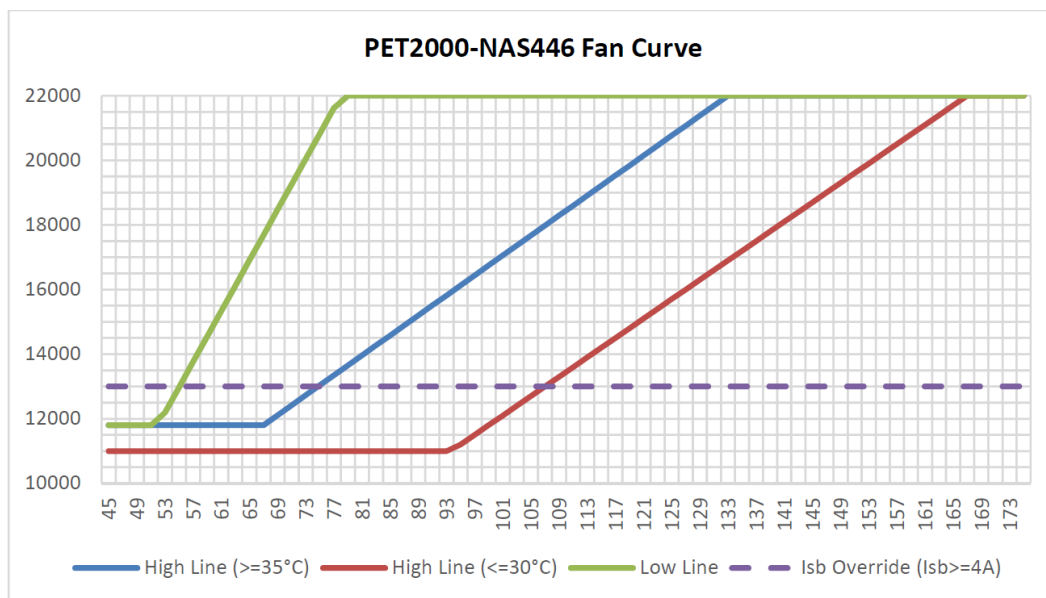

Figure 26. Fan speed vs. main output load
*Figure 26* illustrates the programmed fan curve.